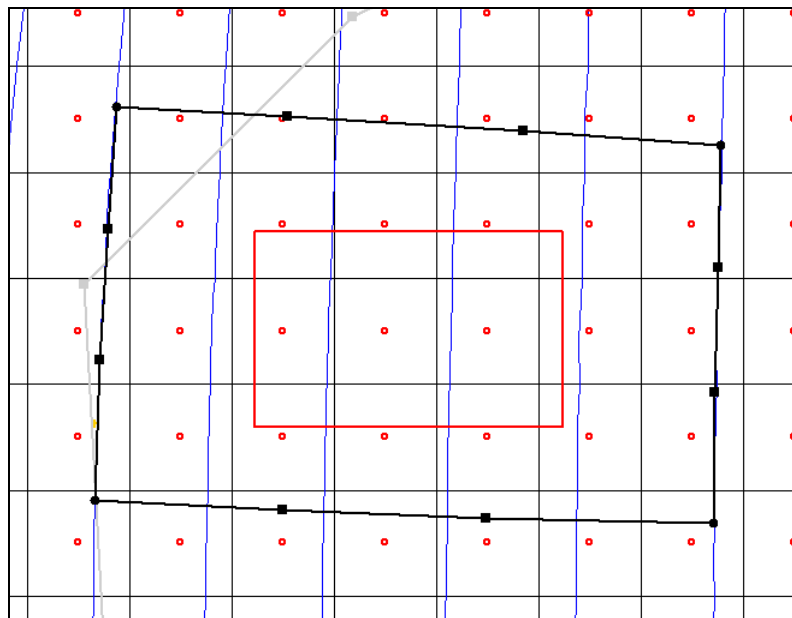

Figure 2 Arcs to be created on boundary of local model
5. Create four arcs, two parallel to the contours, and two perpendicular to the contours as shown in Figure 2. Double-click on the corners to end each arc. Be sure to create all the nodes (circles) and vertices (squares) as shown in the figure.